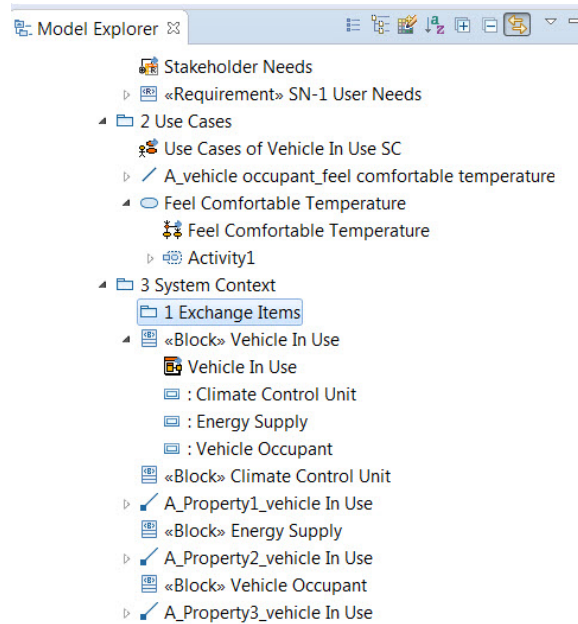

Figure 60: *Exchange Items* package
1. By now you should be familiar with how to create a new package in the *Model Explorer* window. Create a new child package in the *3 Systems Context* package and name the package *1 Exchange Items* (figure 60).